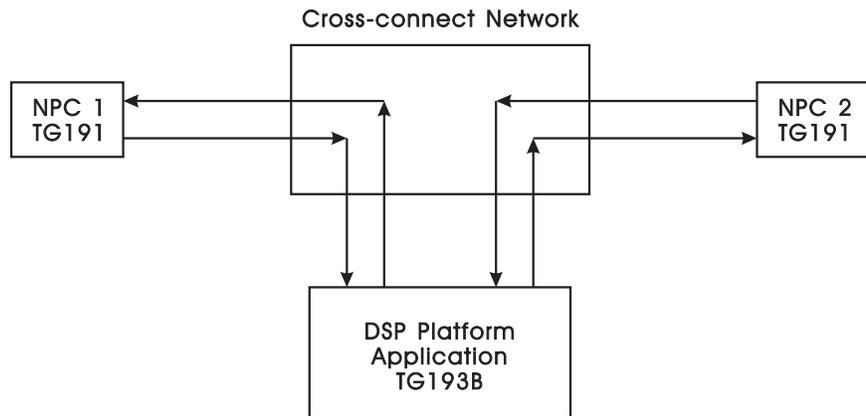

Figure 1-1. Connection Established Between NPC and DSP Circuit Pack
3. The third step is to **establish** the cross-connections between the appropriate facility terminating NPCs and the DSP circuit pack. Establishing these cross-connections is performed by using the application command **CRTE-CRS-TS**. Please note that channels on the DSP circuit pack must be cross-connected to channels on the appropriate facility terminating NPCs before cross-connections of subrate circuits can be made. These connections are illustrated in Figure 1-1.